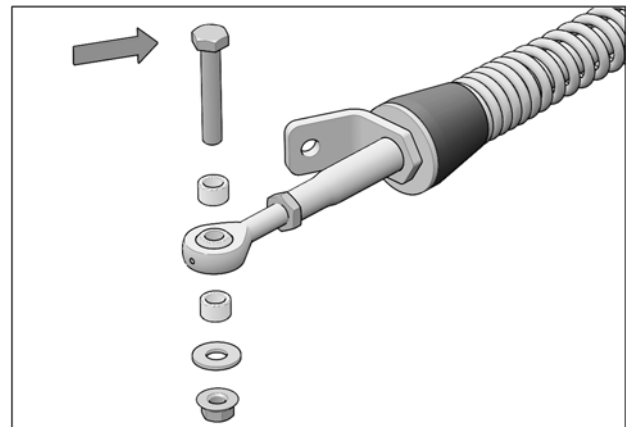

Fig. 3
- Remove bolt, washer and spacer bushings from the rear stabilizing rod end. See Fig. 3